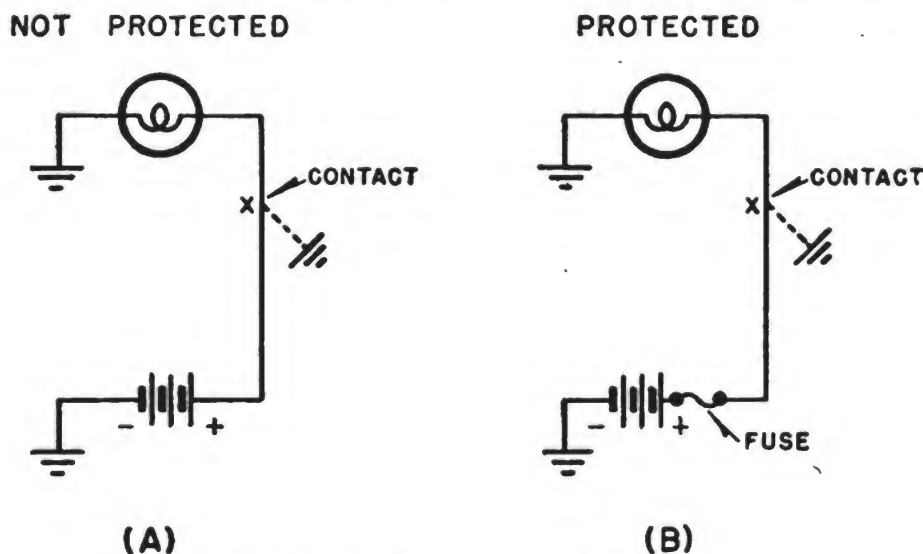

Figure 63.—Fusing—grounded circuits.
In (A) of figure 63, you can note that an accidental ground at any point from the battery terminal to the connection on the lamp will cause a short circuit. The conditions relating to short circuits, overloading, and fusing relate also to grounded circuits. The wire section from the battery to the accidental ground carries the full short circuit current, and you have the same dam-
age and fire hazards as with an ungrounded circuit. Add a fuse, as in (B) of figure 63, to protect this grounded circuit.